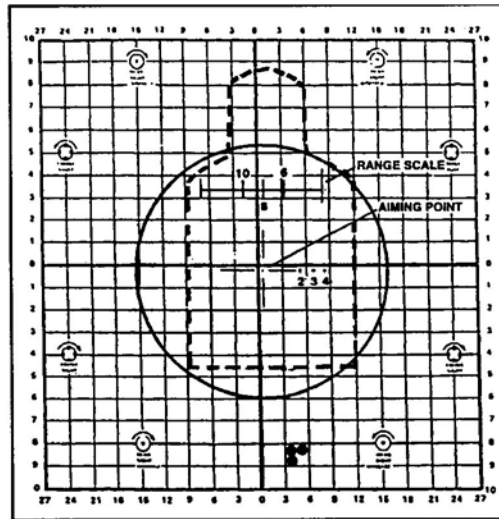

Figure 2. Locate Center of Shot Group
- f. Place the zeroing range aiming point of the reticle on the target aiming point. Fire enough rounds to obtain a good shot group. Locate the center of the shot group (Figure 2).